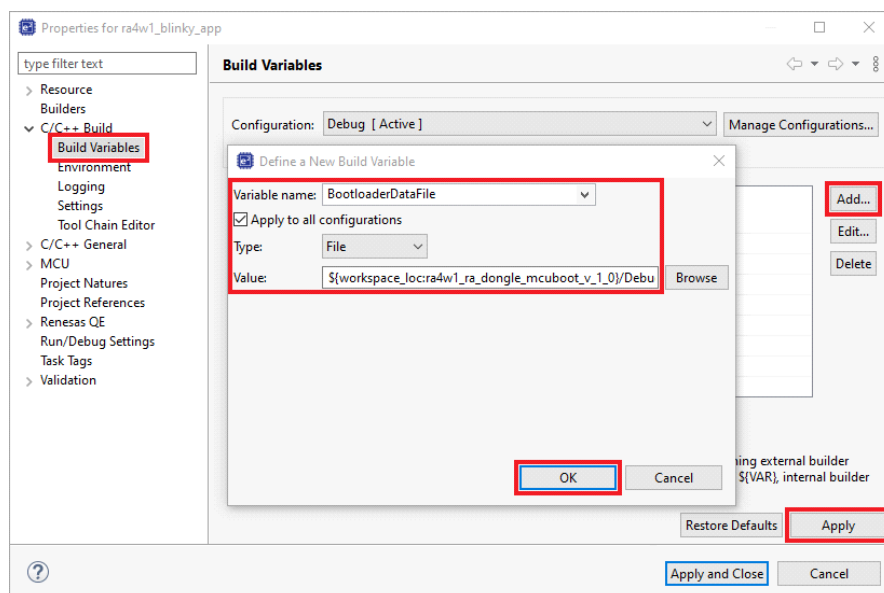

Figure 25. Adding a Build Variable to Use the Bootloader
- b. Check the **Apply to all configurations** box (Figure 25).